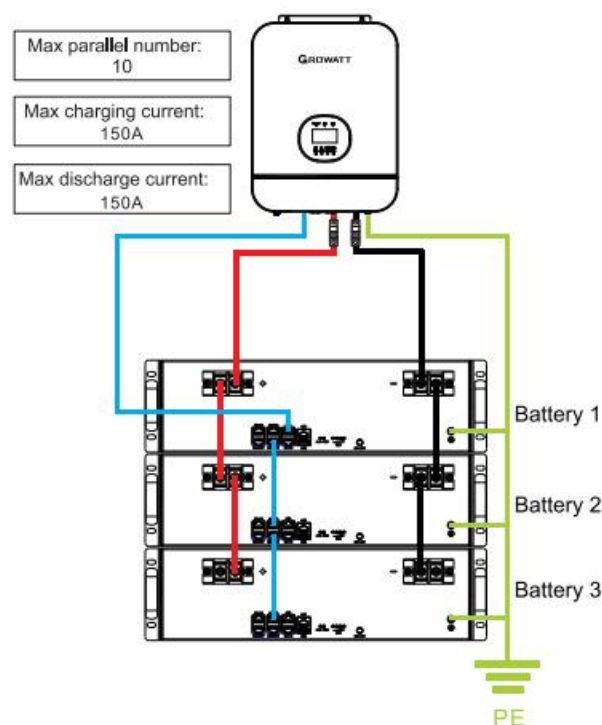

Figure 7: Capacity Expansion Installation Diagram
- 2) Refer to Figure 7 for power cable wiring.